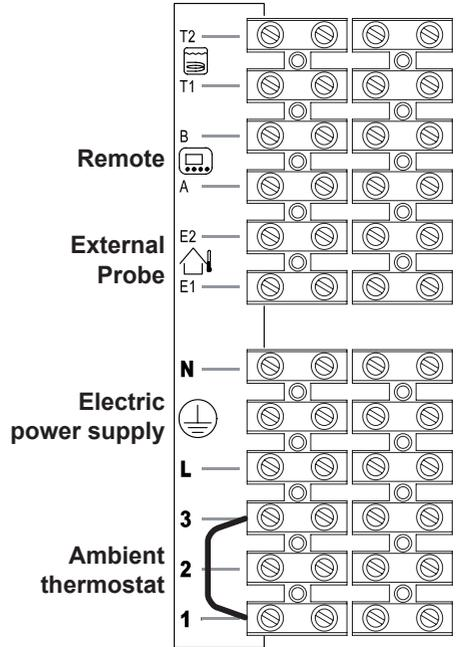
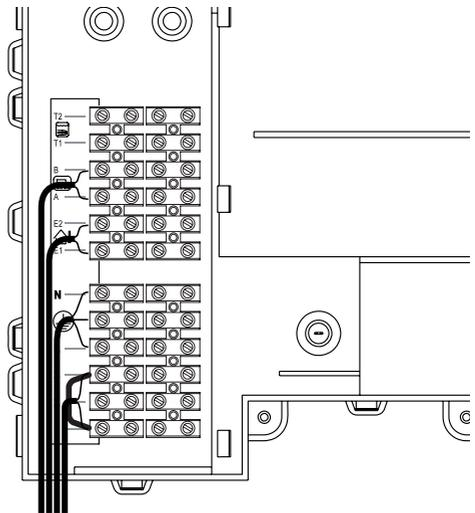
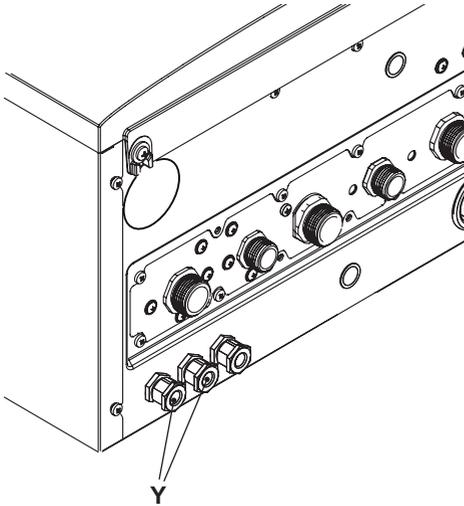

Fig. 6.15
Fig. 6.16
Fig. 6.17
- Connect the electric power supply cable coming from the fused spur isolation switch to the power supply terminal block of the boiler Fig. 6.15 keeping the same connections for the live (brown wire) and the neutral (blue wire). External 3A fuse or fused plug with same current rating is recommended.
The route of the boiler and ambient thermostat's electric power supply cable or wires must follow the route indicated in Fig. 6.16.
Allow the cables to exit the boiler by using the relevant cable clamps Y (Fig. 6.17).
Use the clamps indicated in Fig. 6.15 to connect the ambient thermostat.
Use the ambient thermostat's clamps indicated in Fig. 6.15 and Fig. 6.16 to connect the zone valve. Insert the electric cables of the zone valve's micro switch contacts in clamps "1 and 3" of the ambient thermostat's terminal block as in Fig. 6.16.
The route of the boiler and ambient thermostat's electric power supply cable or wires must follow the route indicated in Fig. 6.16. Allow the cables to exit the boiler by using the relevant cable clamps Y (Fig. 6.17).
The route of the external probe's connection wires must follow the route indicated in Fig. 6.16.
The route of the remote control cable must follow the route indicated in Fig. 6.16. Allow the cables to exit the boiler by using the relevant cable clamps Y (Fig. 6.17).